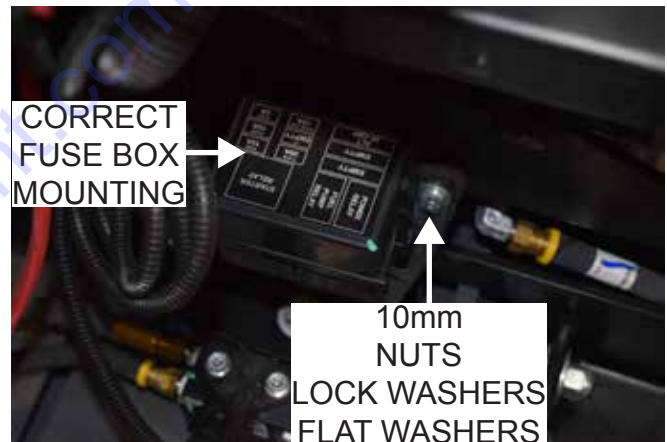

Figure 5. Correct Fuse Box Mounting
6. Orientate the fuse box (Figure 5) with the fuse diagram facing upwards. Secure the fuse box using the two 10mm nuts, lock washers, and flat washers.